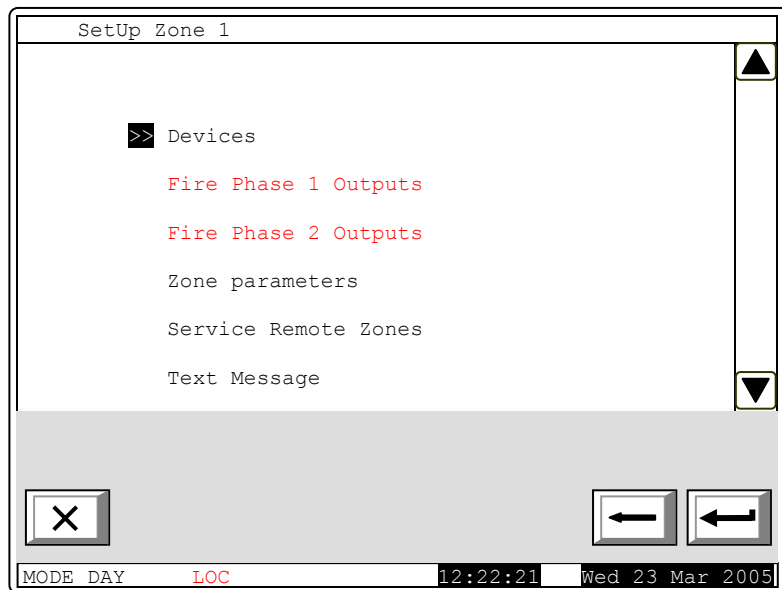

fig.2
- Program the fire phase 1 outputs and fire phase 2 outputs for each zone. From menu "Setup -> Zones -> Zone X -> Fire Phase 1 Outputs or Fire Phase 2 Outputs" (fig.2)